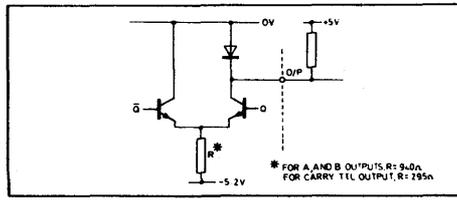

Fig. 4 TTL output circuit diagram
3. These outputs are current sources which can be readily made TTL compatible voltages by connecting them to +5V via 10k Ω resistors (see Fig. 4).